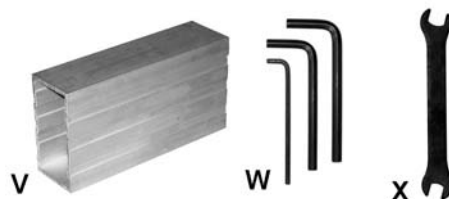

Figure 4 – Tools Included
1. Select two legs (SE), one short stand top support (SD) and one short support plate (SB).
2. Attach one end of the stand top support (SD) to the top of the first leg with two carriage bolts (SG), flat washers (SH), lock washers (SJ) and hex nuts (SK). Attach the other end of the stand top support (SD) to the second leg in the same manner. Hand-tighten only at this time.
3. Attach a support plate (SB) to each leg (SE) in the same manner with two carriage bolts (SG), flat washers (SH), lock washers (SJ) and hex nuts (SK). Hand-tighten only at this time.
5. Complete the stand construction by attaching long stand top supports (SE) and long support plates (SA) to the leg assemblies constructed in steps 1–4. Hand-tighten all hardware only at this time.
6. Place a rubber foot (SQ) on a hex cap screw (SF), then insert the threaded end of the screw through the opening on the bottom of the leg.
7. Secure with flat washer (SH) and hex nut (SK).
10. Tighten all hex nuts with the 10mm wrench (X, Figure 4) provided.
1. Place the Jointer-Planer (D) onto the assembled stand and secure with 4 socket head cap screws (SM), lock washers (SP), and flat washers (SN).
2. Tighten all socket head cap screws (SM) with the 5mm hex wrench (W, Figure 4) provided.